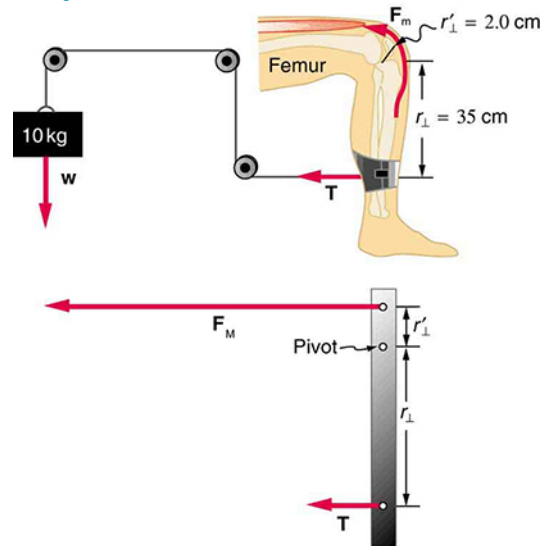

Figure 9.38 A mass is connected by pulleys and wires to the ankle in this exercise device.
29. A device for exercising the upper leg muscle is shown in Figure 9.38, together with a schematic representation of an equivalent lever system. Calculate the force exerted by the upper leg muscle to lift the mass at a constant speed. Explicitly show how you follow the steps in the Problem-Solving Strategy for static equilibrium in Applications of Statistics, Including Problem-Solving Strategies.